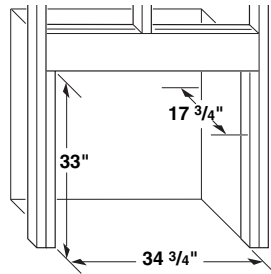
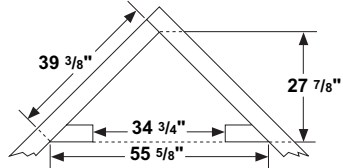

Figure 15 - Rough Opening for Installing in Wall
Figure 16 - Rough Opening for Installing in Corner
1. Frame in rough opening. Use dimensions shown in Figure 15 for the rough opening. If installing in a corner, use dimensions shown in Figure 16 for the rough opening. The height is 33", which is the same as the wall opening in Figure 15.